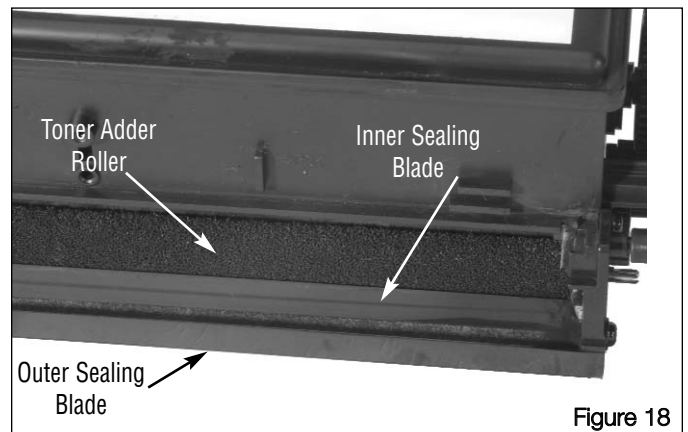

Figure 18
- b. Clean the Toner Adder Roller and the Developer Roller Inner and Outer Sealing Blades using only ionized, dry, filtered, compressed air (Figure 18). Clean small sections of the Roller at a time by rotating the Roller slowly while directing the air stream back and forth along the Roller surface. Do not use any type of cleanser on the Sealing Blades.